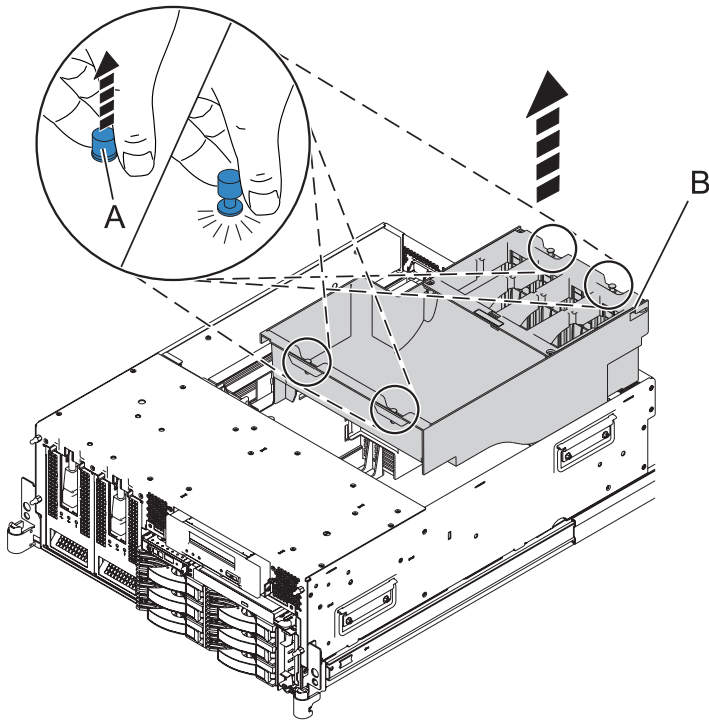

Figure 13. Removing the airflow cover from the 8203-E4A, 8261-E4S, 9407-M15, or 9408-M25 system
- 2) To remove the airflow cover (B), lift each of the four tabs (A) to release the cover, and lift the cover off of the system, as shown in Figure 13 on page 18.